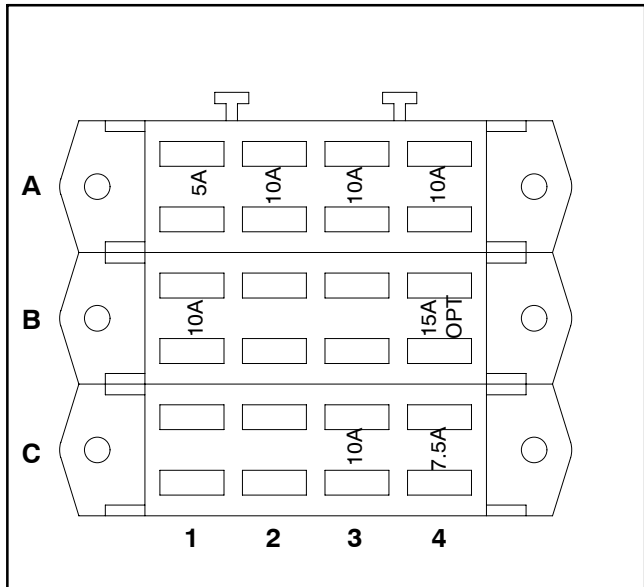

Figure 9
The fuses are held in three (3) fuse blocks. Use Figures 9 and 10 to identify each individual fuse and its correct amperage. Each fuse holder has the following functions and wire connected to it.